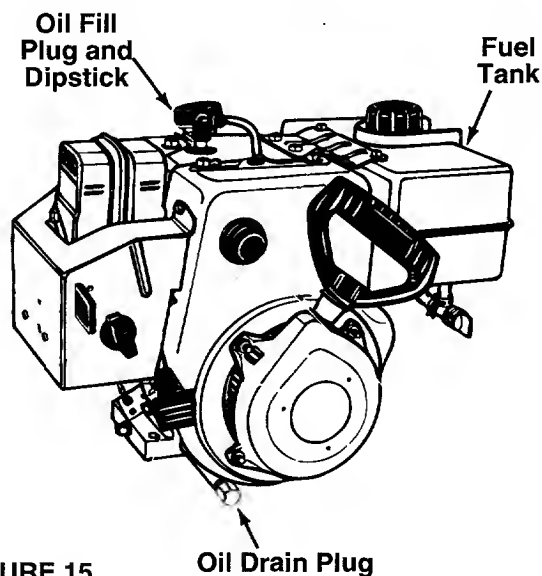

FIGURE 15.
- a. Remove oil drain plug. Refer to figure 15. Catch oil in a suitable container.